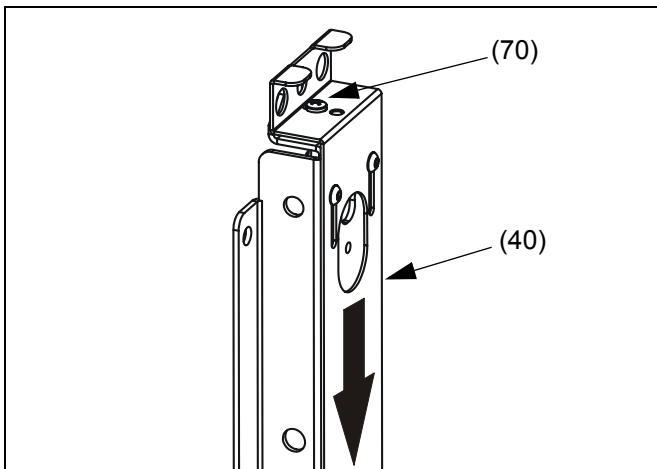

Figure 15: Closed Latch
3. Lift and maneuver display such that all buttons (90) fit into button openings on brackets (20). Lower display firmly into place. Ensure each button (90) has fully seated in its button opening.
4. Using Phillips screwdriver, tighten screw (70) until latch (40) slides into closed position (See Figure 15).